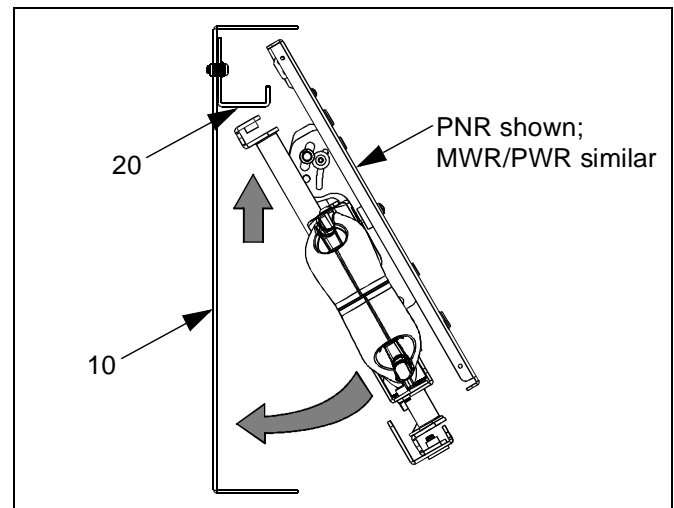

Figure 9: Insert Mount
7. Tilt and insert upper portion of mount assembly into upper bracket (20), then tilt and insert lower portion of mount assembly into housing (10) (See Figure 9).